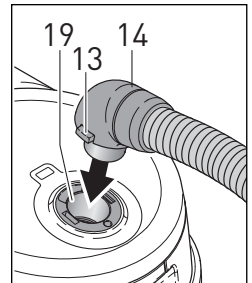

Figure 1
BEFORE YOU USE YOUR NEW D4 - Figures 1, 2, 3 & 4
1. Push the neck (14) of the hose (11) into the suction opening (19) of the canister (figure 1). When all four notches are lined up correctly, the neck will snap firmly into place. To release the hose from the suction opening, squeeze the release tabs (13) on both sides of the neck (14) and pull the neck out. Before proceeding, connect the hose to the canister.